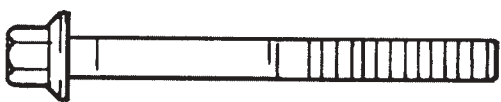

Figure 11-10. Connecting Rod Bolts.
5. Install the inner rod cap to the connecting rod using the two hex flange screws. Three different types of connecting rod bolts have been used, and each has a different torque value. If 8 mm straight shank type bolts are used, torque in increments to **22.7 N·m (200 in. lb.)**. If 8 mm step-down bolts are used, torque in increments to **14.7 N·m (130 in. lb.)**. If 6 mm straight shank bolts are used, torque in increments to **11.3 N·m (100 in. lb.)**. Illustrated instructions are provided in the service rod package. See Figures 11-10 and 11-11.